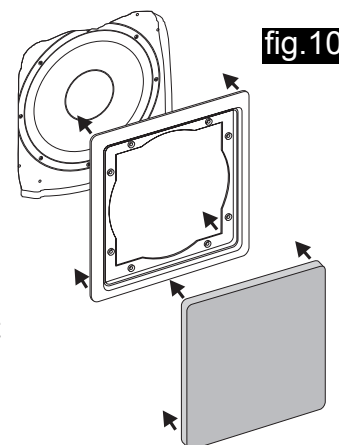

fig.10
10. Attach the metal grille by inserting it into the grooves in the bezel (fig. 10).